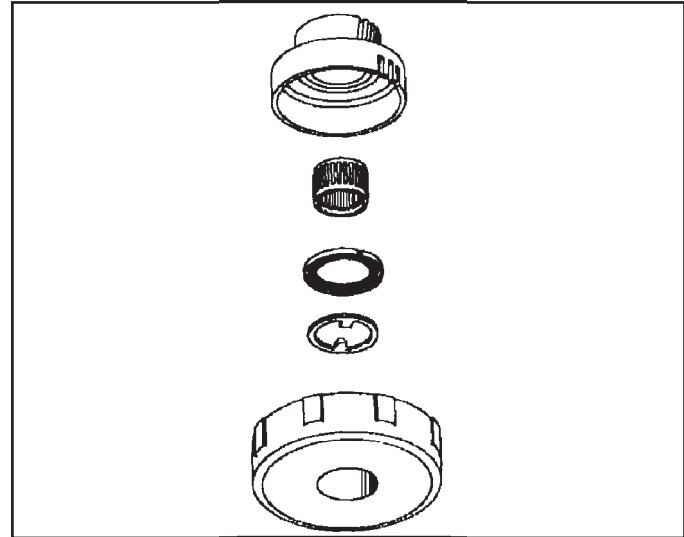

Figure 94
1. Remove the 1st drive gear from the 1st clutch drum assembly and inspect the teeth and bearing race for wear, chipping or pitting and replace as necessary (See Figure 94).
2. Remove the caged needle bearing from the 1st clutch drum assembly by carefully expanding the caged bearing from the open end separating it from the inner race (See Figure 94).
3. Remove the single sided bearing thrust washer (See Figure 94).
4. Remove the tanged bearing race washer (See Figure 94). Inspect all bearings and races for wear.